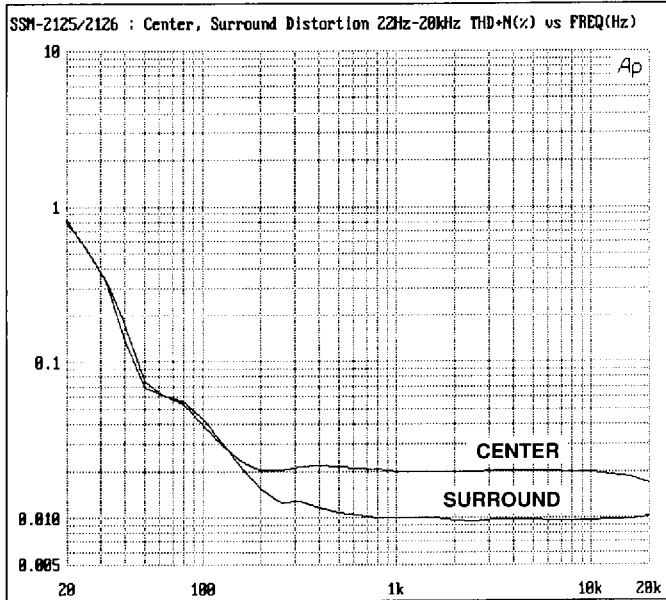

Figure 1. THD+N vs. Frequency,* Center and Surround Channels ($V_{IN} = 0 \text{ dBd}$, $R_L = 100 \text{ k}\Omega$)
*80 kHz low-pass filter used for Figures 1 and 2.